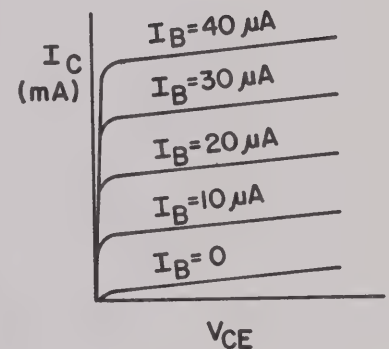
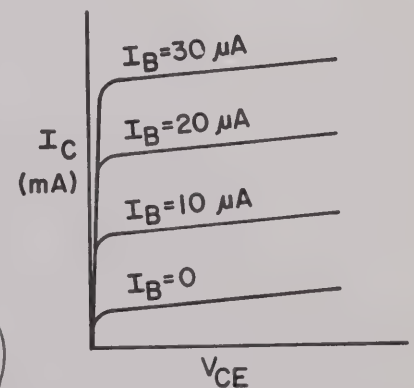
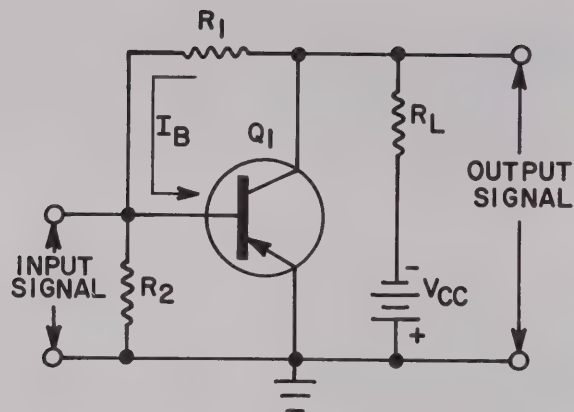

Figure 9
Figure 10
Figure 11
Although the circuit of Figure 8 provides some bias stability, improved stability can be obtained by employing a bias circuit with CURRENT FEED-BACK. The effects of temperature changes on base current and collector current may be shown with the aid of Figures 9 and 10. A typical transistor operating at normal operating temperature in a common-emitter circuit will have a family of collector characteristic curves similar to those shown in Figure 9. Suppose that the operating temperature of the transistor is increased. With a given value of collector voltage and base current, the collector leakage current increases as the temperature increases. This causes the internal resistance of the transistor to decrease. Since the resistance of the base-to-emitter junction also decreases, the base current increases. These current increases cause the base current lines of Figure 9 to shift upward and spread apart somewhat, as shown by Figure 10. This means that the current gain of the transistor increases.
A method of obtaining negative feedback is shown in Figure 11. The R_1R_2 bias circuit is connected directly to the collector and produces base current I_B in the direction shown. As the temperature of the transistor increases, the collector current increases, as illustrated by the shift of the characteristic curves of Figure 10. With increased collector current, the voltage across the collector load resistor, R_L , increases. With an increased voltage across R_L , the collector voltage decreases. Since the bias circuit is connected to the collector, the reduced collector voltage causes a decrease in base bias current I_B . This tends to bring the base current back to its original value, thus counteracting the effects of the temperature change. Therefore, the circuit provides voltage feedback since the base current and voltage are controlled by the collector voltage.
21. Draw a voltage feedback bias arrangement, similar to the one shown in Figure 11, with an NPN transistor.
22. Explain how the bias arrangement of Figure 11 maintains a constant bias when a decrease in temperature causes a decrease in the collector and base currents.